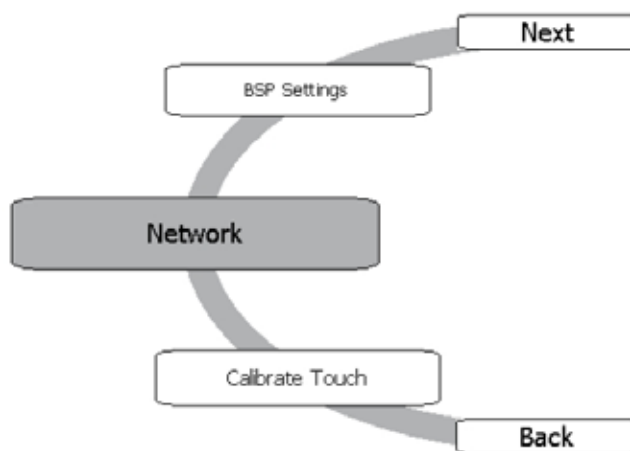

Figure 43: System Settings tool
2. The panel will normally boot up into the 'Main OS', however, network configuration needs to be carried out in the 'Configuration OS'. To enter this mode, at the instant of power up, tap the E+HMI150 screen rapidly and repeatedly until a message `Tap Tap is Detected – Going to Config Mode` appears. This is followed by the Systems Settings tool (Figure 43) — this may take several seconds.